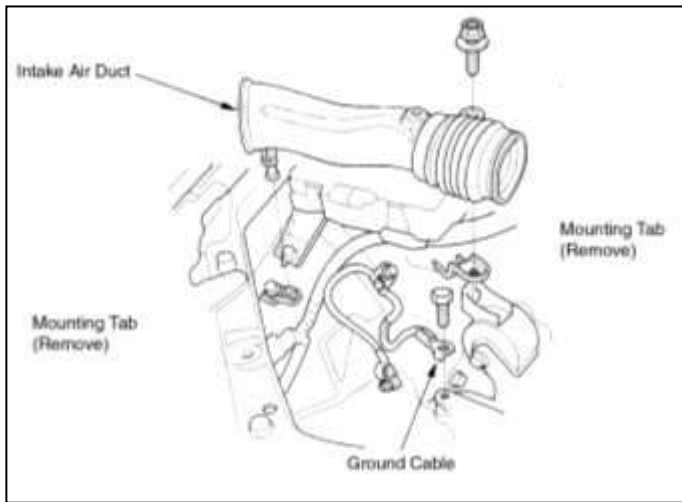

Fig. 3
- c. Remove the intake air duct by loosening the bolt at one end and then pulling the other end up out of the mounting tab. **(Fig. 3)**
- iii. Remove the two intake air duct mounting tabs from the fender well. Remove the ground cable bolt from the transmission bracket. **(Fig.3)**